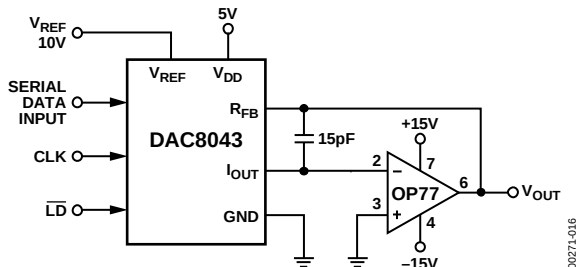
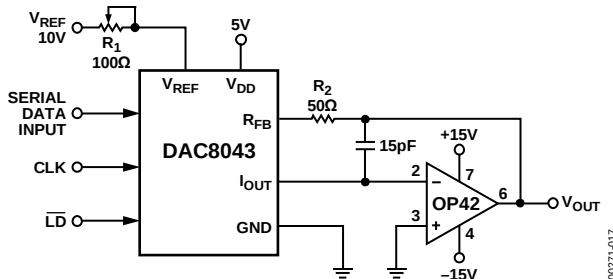
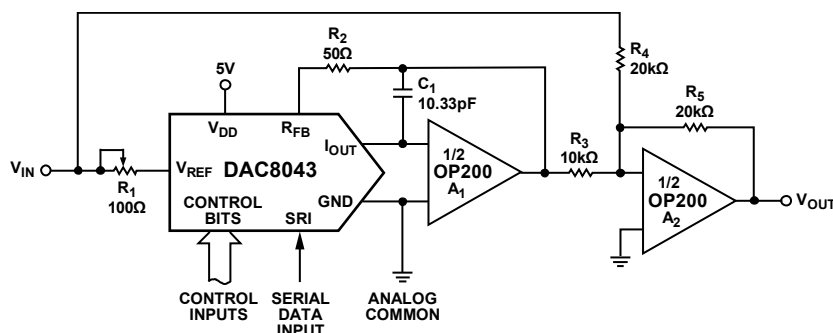

Figure 16. Unipolar Operation with High Accuracy Op Amp (2-Quadrant)
Figure 17. Unipolar Operation with Fast Op Amp and Gain Error Trimming (2-Quadrant)
Figure 19. Bipolar Operation (4-Quadrant, Offset Binary)
1. Phase compensation (see Figure 16 and Figure 17).
In most applications, linearity depends upon the potential of the  $I_{OUT}$  and GND pins being equal to each other. In most applications, the DAC is connected to an external op amp with its noninverting input tied to ground (see Figure 16 and Figure 17). The amplifier selected should have a low input bias current and low drift over temperature. The amplifier's input offset voltage should be nulled to less than 200  $\mu$ V (less than 10% of 1 LSB).
The circuits shown in Figure 16 and Figure 17 may be used with an ac or dc reference voltage. The output of the circuit ranges between 0 V and approximately  $-V_{REF}$  (4095/4096), depending upon the digital input code. The relationship between the digital input and the analog output is shown in Table 6. The limiting parameters for the  $V_{REF}$  range are the maximum input voltage range of the op amp or  $\pm 25$  V, whichever is lowest.
Gain error may be trimmed by adjusting  $R_1$ , as shown in Figure 17. The DAC register must first be loaded with all 1s.  $R_1$  may then be adjusted until  $V_{OUT} = -V_{REF}$  (4095/4096). In the case of an adjustable  $V_{REF}$ ,  $R_1$  and  $R_2$  may be omitted, with  $V_{REF}$  adjusted to yield the desired full-scale output.
| Digital InputMSB | LSB       | Nominal Analog Output( $V_{OUT}$ as Shown in Figure 16 and Figure 17) |
1 Nominal full scale for Figure 16 and Figure 17 circuits is given by
2 Nominal LSB magnitude for Figure 16 and Figure 17 circuits is given by
Figure 19 details a suggested circuit for bipolar, or offset binary, operation. Table 7 shows the digital input to analog output relationship. The circuit uses offset binary coding. Two's complement code can be converted to offset binary by software inversion of the MSB or by the addition of an external inverter to the MSB input.
| MSB      LSB   | (V OUT as Shown in Figure 19)    |
1 Nominal full scale for Figure 19 circuits is given by
2 Nominal LSB magnitude for Figure 19 circuits is given by
The transfer function for the DAC8043 connected in the multiplying mode, as shown in Figure 16, Figure 17, and Figure 19, is